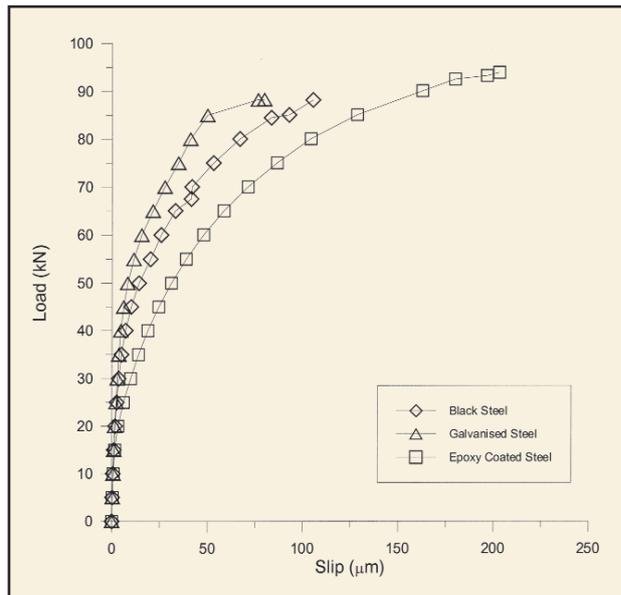

Figure 1. Load-slip data for black, galvanized and epoxy coated ribbed bars.
- ◆ in beam tests, at ultimate load there was no significant difference in the free-end slip of galvanized bars and black bars. At intermediate loads there was a noticeable reduction in slip for galvanized bars compared to black steel bars as shown in Figure 1.